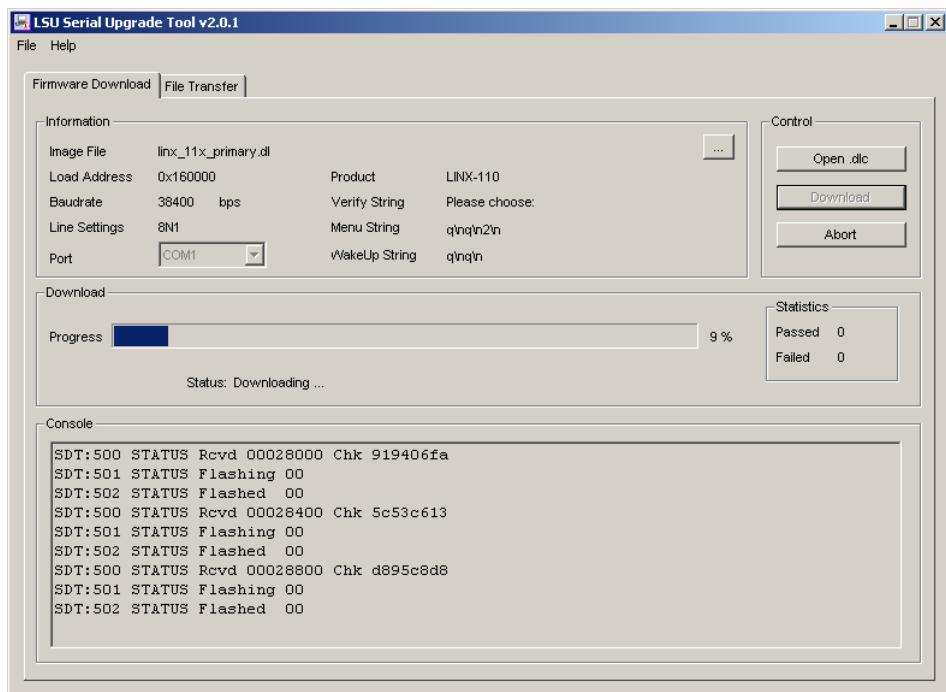

Figure 152: Progress Bar during Firmware Download.
2. If the L-Proxy is not connected to COM1 you can change the port to COM2, COM3, or COM4. Make sure that the product shown under “Product” matches the device you are upgrading. Press **Download** to start the download. A progress bar as shown in Figure 152 can be seen.